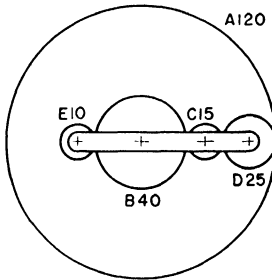

Fig. P 11.10
11.10. In Fig. P 11.10, gear *A* is fixed. The arm is turned once in a clockwise direction. Determine the number of absolute turns and directions of gears *B*, *C*, *D*, and *E*.
11.11. In Fig. P 11.10, gear *B* is fixed. The arm is turned once in a clockwise direction. Determine the number of absolute turns and directions of gears *A*, *C*, *D*, and *E*.